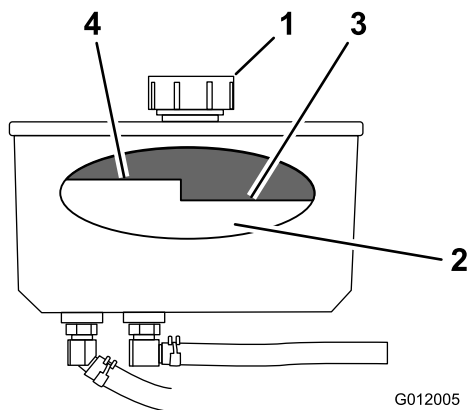

Figure 71
4. Clean the area around the cap and the filler neck of the hydraulic tank (Figure 71).
5. Remove the cap from the filler neck (Figure 71).
**Note:** The fluid level should be below the hot level of the baffle when the fluid is warm (Figure 71).